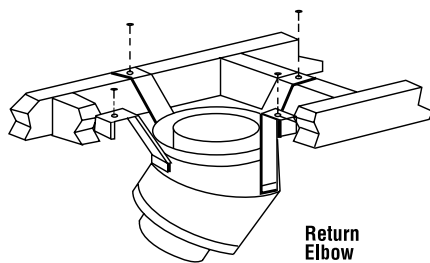

Figure 40
**Step 5.** Secure support straps to framing members by nailing under tension in sheer (Figure 40).